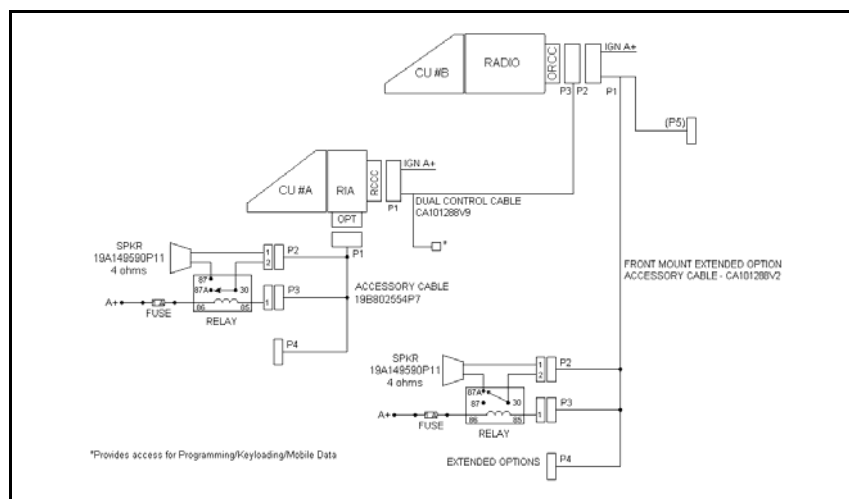

Figure 10-4: M7100^{IP} Dual Control Unit Front Mount/Remote Mount Installation Configuration
1. Referring to Figure 10-4, run the Dual Control Cable (19B802554P9) between locations for the Radio Unit and Auxiliary Control Unit. Be sure to locate the P2/P3 connector assembly at the Radio Unit.
- B. Hardwire each speaker directly (without relays) as shown in Figure 10-4.
9. Radio Unit Speaker: Connect the lead nearest the speaker to Pin 87A of the relay. Connect the lead nearest the connector to Pin 30 of the relay. Connect the connector to the Accessory Cable P2 (refer to Figure 10-4).
10. Auxiliary Control Unit Speaker: Connect the lead nearest the speaker to Pin 87 of the relay. Connect the lead nearest the connector to Pin 30 of the relay. Connect the connector to the Accessory Cable P2 (refer to Figure 10-4).
11. For each relay: Connect a #18 AWG black wire between the relay, Pin 85 and Accessory Cable P3-1 (labeled "OUT2" on the schematic diagrams in the service manual). Use a 1/4" tab receptacle on the relay side and mating Molex connector and pins on the accessory cable side. Connect the mating Molex connector to the Accessory Cable P3 when finished (refer to Figure 10-4).
12. For each relay: Connect a #18 AWG red wire to the relay, Pin 86. Cut to length, and connect to the 1A fuse holder (supplied). Use crimp on connectors supplied. Connect the other side of the 1 amp fuse holder to A+ battery source or vehicle A+ fuse block. Use #18 AWG red wire and ring lug supplied, if needed (see Figure 10-4).